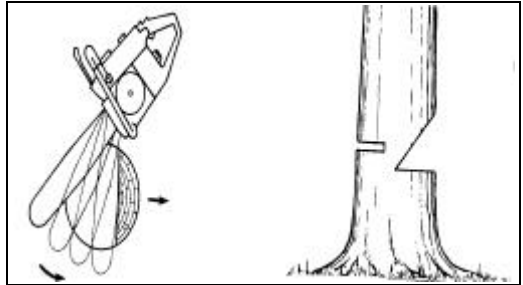

Fig 9-2-2 Back Cut
7. **Making the Back Cut.** The back cut is the felling cut and it is made on the side directly opposite the wedge. It should be horizontal and approximately 50 mm above the floor of the wedge as shown in Fig 9-2-2. The back cut should penetrate the tree until about 50 to 80 mm of holding wood is left. This uncut wood is known as the hinge and serves to guide the tree as it falls. The hinge should never be less than 30 mm thick. If after making the back cut, the tree